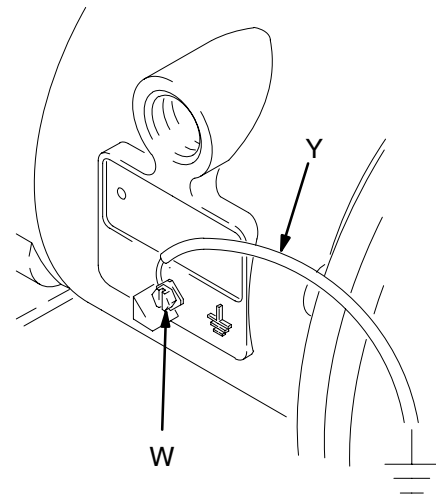

Fig. 1
*Polypropylene and Poly-vinylidene fluoride are **not** conductive. Attaching the ground wire to the grounding lug will ground only the air motor. When pumping conductive flammable fluids, **always** ground the entire fluid system by making sure the fluid has an electrical path to a true earth ground. See Fig. 1.*
- *Air Motor:* Connect a ground wire and clamp as shown in Fig. 1. Loosen the grounding screw (W). Insert one end of a 12 ga (1.5 mm2) minimum ground wire (Y) behind the grounding screw and tighten the screw securely. Connect the clamp end of the ground wire to a true earth ground. Order Part No. 237569 Ground Wire and Clamp.